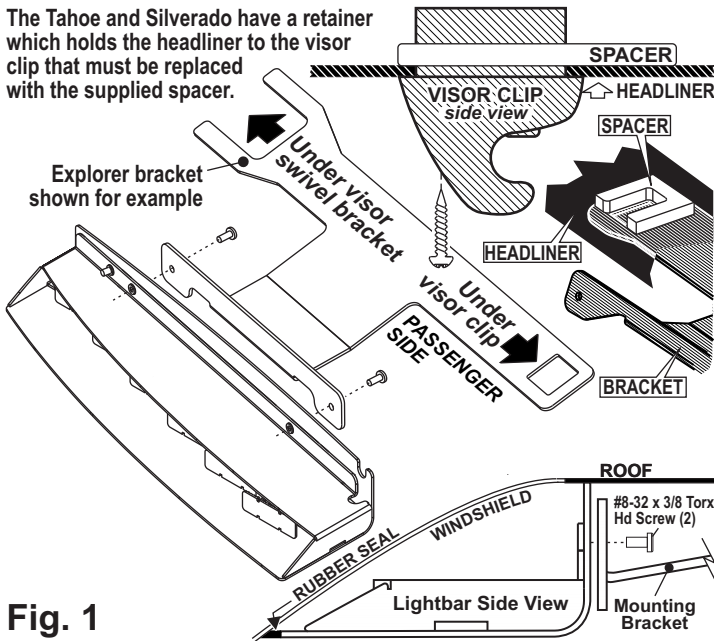

Fig. 1
3. Secure mounting bracket to Inner Edge housing using hardware provided (Fig. 1).
4. Position the keyed opening of the mounting bracket directly under the location of the visor clip removed in step 2 and remount the visor clip in its original location using the original hardware (See Spacer installation in Fig. 1).
Figures 1 thru 3 show the driver side of the interior, looking up at the roof.
4. Secure the mounting bracket to the lightbar and position the bracket where it will mount on the vehicle (Fig. 1 side view). **NOTE: The rubber seal should be in full contact with the windshield and the rear of the lightbar should be in contact with the roof to prevent light from entering the passenger compartment**